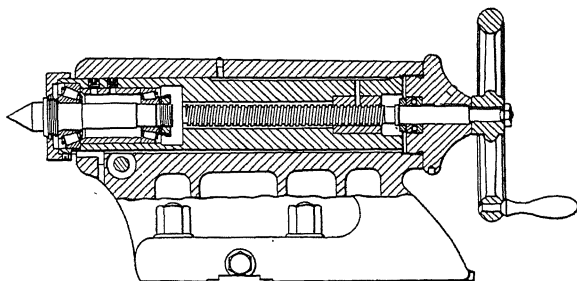

FIG. 40.—An example of a modern tailstock with built-in antifriction center.
**53. Examples of Modern Designs.**—The revolving dead center with antifriction bearings (Fig. 40) illustrates the tendency in design. Every machinist realizes the advantage of such a center in high-speed production work, provided the